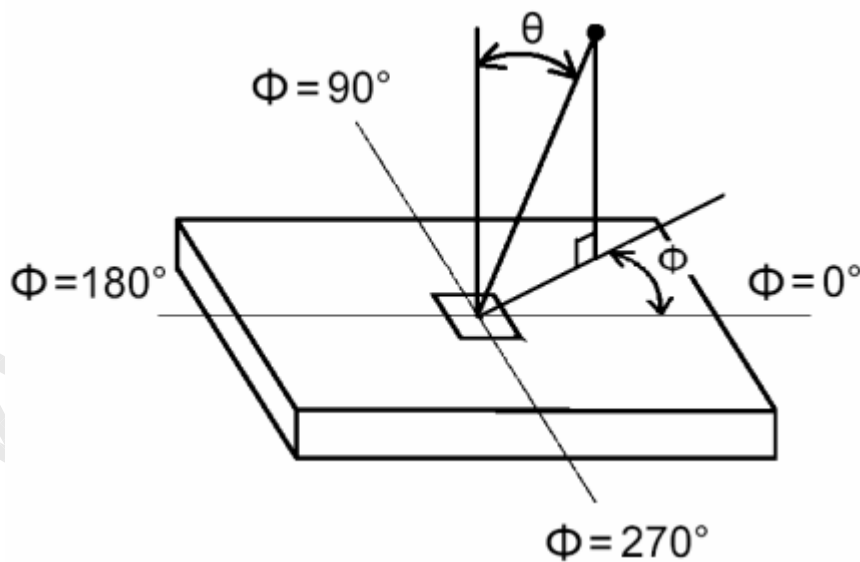

FIG.4 Viewing angle
4. Viewing angle is the angle at which the contrast ratio is greater than 10. The angles are determined for the horizontal or x axis and the vertical or y axis with respect to the z axis which is normal to the LCD surface. For more information see FIG4.